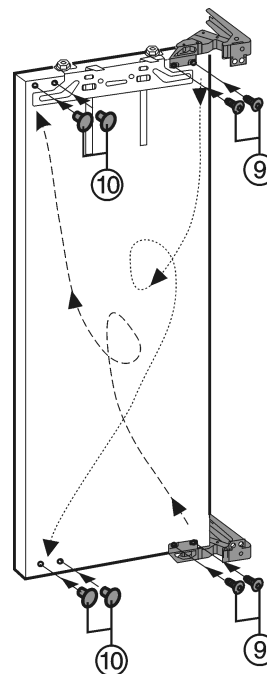

Fig. 10
- Unscrew Fig. 10 (9) the hinges from the door, move to the other side and **secure tightly by applying a screw torque of 3 lb-ft (4 Nm)**.
- Close off the now unused holes with plugs Fig. 10 (10).